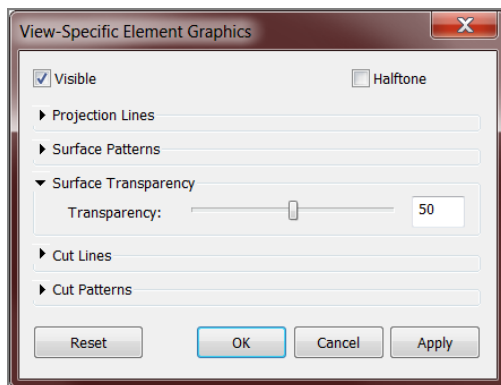

FIGURE 9.10: The View-Specific Element Graphics dialog box
5. In the **View-Specific Element Graphics** dialog box, select the small downward-pointing arrow in the **Surface Transparency** row, and slide **Transparency** to 50 percent. See Figure 9.10.